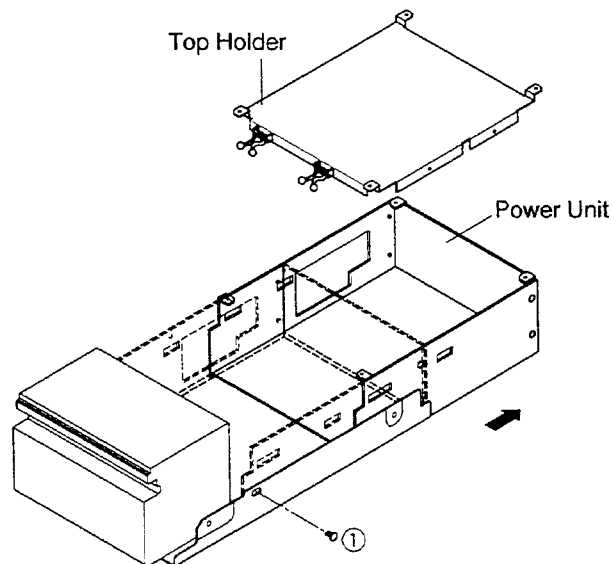

Fig. 5
3. Remove the Top Holder shown in Fig. 5.
5. Remove one screw (①) securing the Power Unit shown in Fig. 5 and remove the Power Unit in the direction of the arrow.